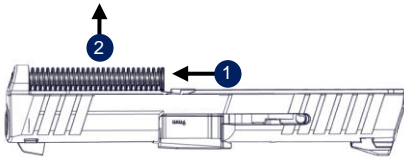

Fig. 18
5. Remove the recoil spring from its housing under the barrel by slowly pushing the spring towards the front of the barrel. Lift the recoil spring and recoil spring guide up and out of the slide (Fig. 18).